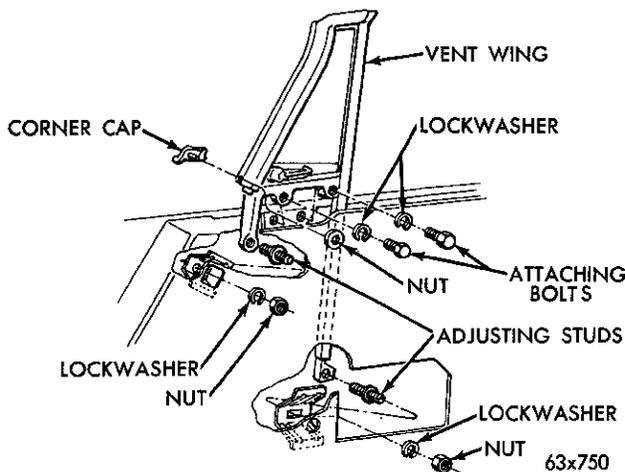

Fig. 65—Vent Wing Attaching Points (All Chrysler Models except 4-Door Sedan)
(1) Remove the inside handles, trim panel (disconnect the battery and the electric window switch if so equipped) and the weather shield.
(2) Remove the vent wing frame adjustment lock nut and washer, at the lower end of the vent wing frame division bar and run channel.
(3) Remove the vent wing frame attaching screws (Figs. 65 and 66).
(4) Run the door glass down and tip the vent wing assembly to the rear.
(5) Pull the vent wing assembly up and out of the door frame.